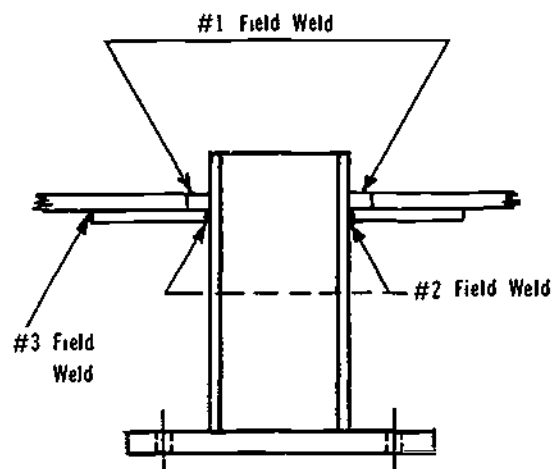

Figure 12-34. Tank Shell Fitting with Unwelded Reinforcing Pad
- Step 4. Weld the nozzle and the pad to the shell on the **inside first**. Weld the nozzle to the pad on the outside next. Weld the reinforcing pad to the shell last. Only 5/32" diameter electrodes are to be used on uphill passes (Figure 12-34).